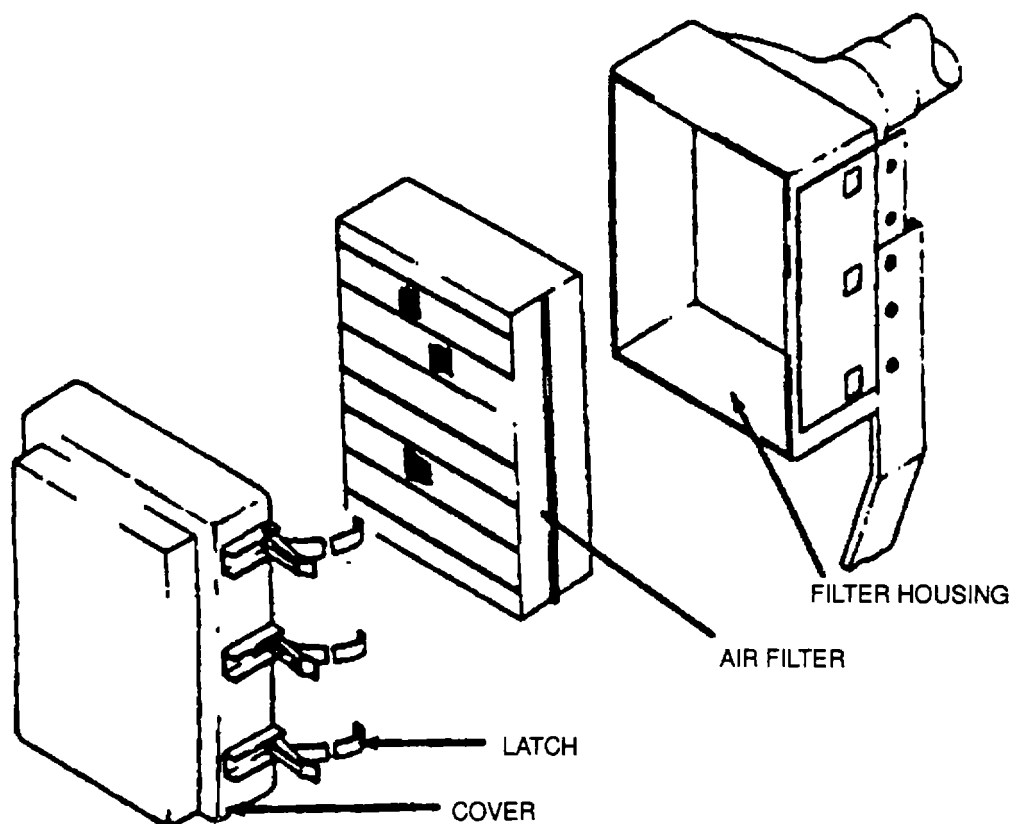

Figure 4-7. HP Pump Diesel Engine Air Filter
- a. Open six batches and remove the air cleaner cover and element (Figure 4-7).